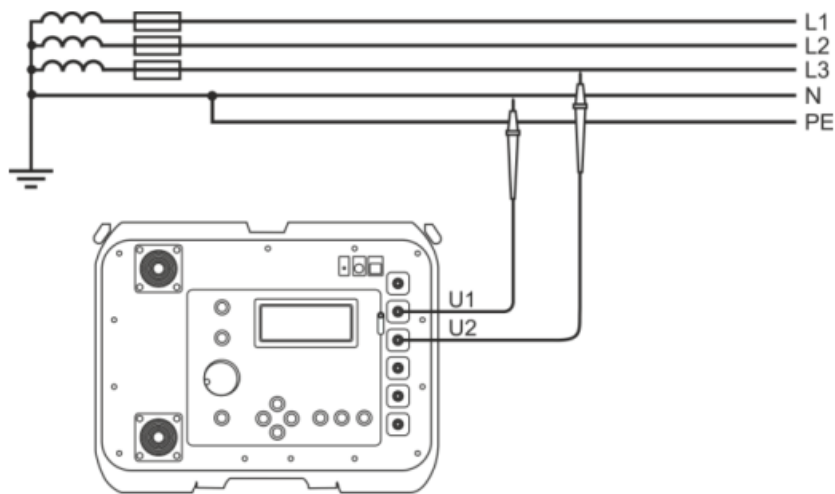

Fig. 11 Alternating voltage measurement
- Connect the test cables to sockets: U1 and U2 (Fig. 11)